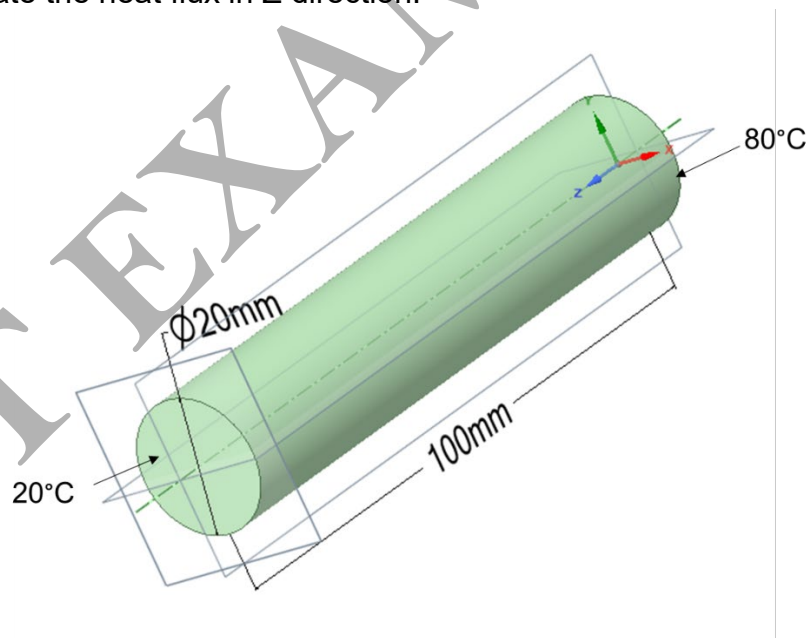

Figure Q5: Cylindrical bar with temperatures as boundary conditions.
- b) A cylindrical bar of length, $L = 100$ mm is exposed to temperatures of $T_1 = 80$ °C at $z = 0$ mm and $T_2 = 20$ °C at $z = 120$ mm as shown in **Figure Q5**. Assuming that the thermal conductivity of the material is 70 W/(m.K).